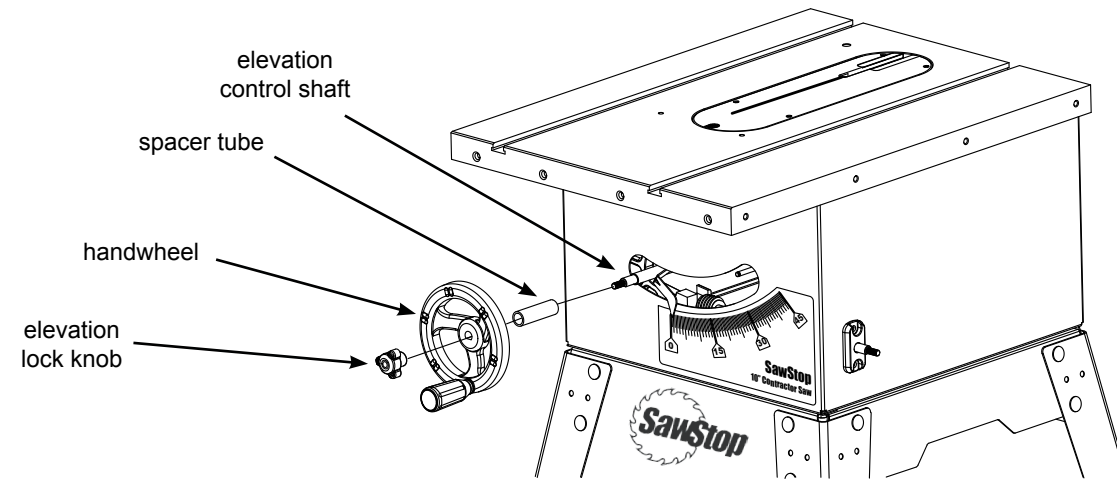

Fig. 15
15. Open the elevation handwheel package and remove the  $2\frac{5}{8}$  inch long plastic spacer tube. Slide the tube as far as possible onto the elevation control shaft that extends out from the front of the saw (see Fig. 15). Next, slide the handwheel onto the same shaft. Finally, thread the elevation lock knob onto the shaft.